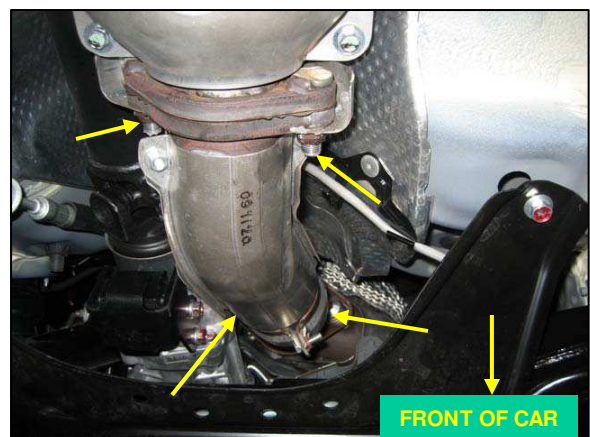

Fig. 15
17. From underneath the vehicle, remove the front exhaust pipe (before catalytic converter). Remove the 2 bolts with springs into downpipe with 14mm socket on 12" (305mm) extension. Rear nuts are 19mm. If you do not desire to remove the oxygen sensor from the pipe, secure the pipe under the car with zip-ties or wire, so that the oxygen sensor wire is not supporting the weight of the pipe (2 bolts, 2 nuts, 14mm & 19mm sockets, extension). Fastener locations shown by arrows in *Fig. 15*.
51. Install the front exhaust pipe with its OE seal ring and gasket. Apply anti-seize compound to all fastener threads. Install bolts into downpipe with springs underneath heads, and torque to 23-37 lb-ft (31-51 N-m). Install nuts onto studs on catalytic converter and torque to 37-51 lb-ft (49-69 N-m). If oxygen sensor was removed, install and torque to 30-36 lb-ft (39-49 N-m) (2 bolts w/ springs, 2 nuts, 14mm & 19mm sockets, extension). Refer to *Fig. 15*.